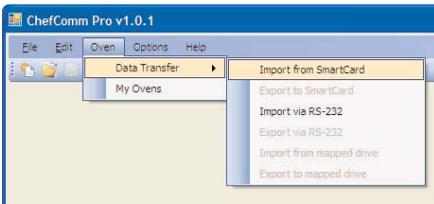

Figure 29: Import Menu from Smart Card
2. Select **Oven > Data Transfer > Import from Smart Card** (Figure 29).